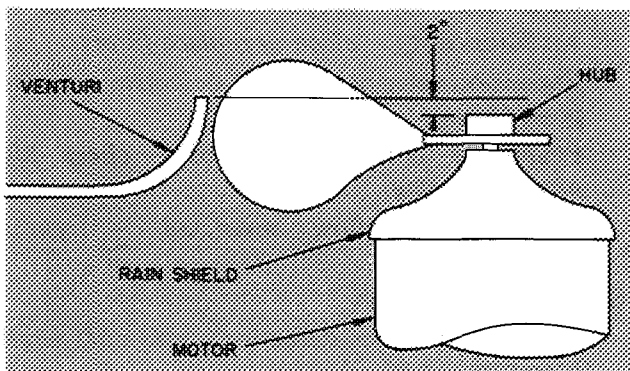

Fig. 6 — Condenser Fan Adjustment
**Condenser Fan Adjustment** — Remove air outlet grille. Loosen fan hub setscrews and adjust fan to correct position (Fig. 6). Tighten setscrews and replace air grille. Refer to Motormaster® instructions for fan-speed control as required.